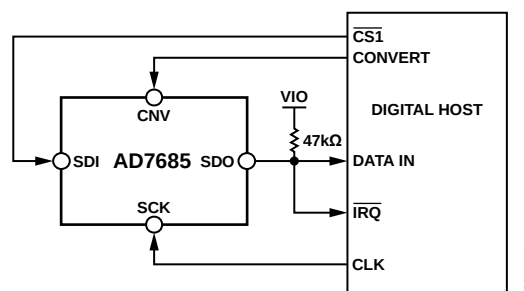
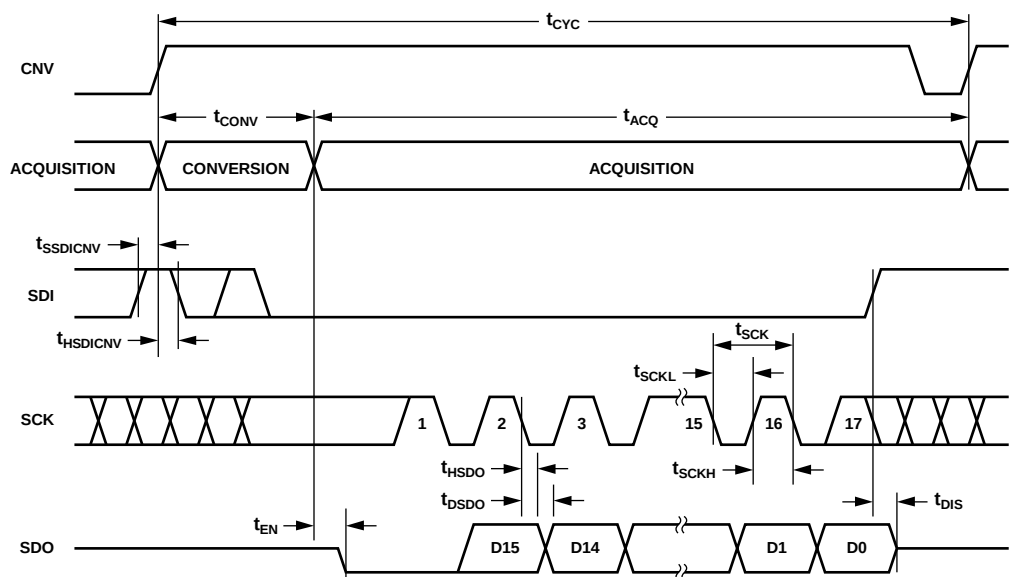

Figure 40. $\overline{CS}$ Mode 4-Wire with BUSY Indicator Connection Diagram
Figure 41. $\overline{CS}$ Mode 4-Wire with BUSY Indicator Serial Interface Timing
- In the $\overline{\text{CS}}$ mode, if CNV or SDI is low when the ADC conversion ends (see Figure 37 and Figure 41).
The connection diagram is shown in Figure 40, and the corresponding timing is given in Figure 41.